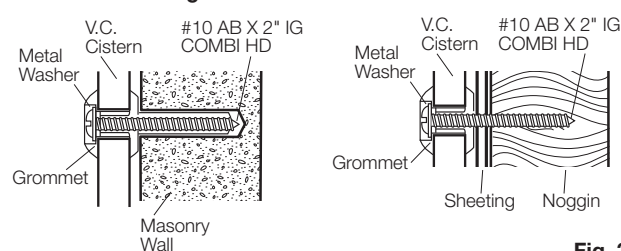

Fig. 3
- 3- Fit cistern fixing grommets in cistern wall fixing holes, as detailed in Fig. 3. Position fixing grommets in cistern over wall plugs, insert #10 x 2" Combi Hd. self tapping screws and metal washers (supplied in fixing kit). Do not over tighten.